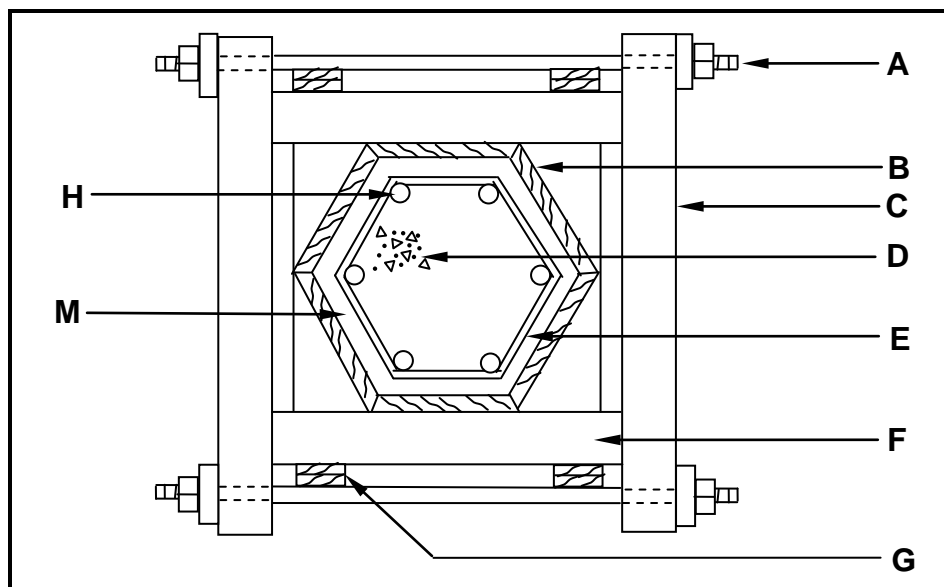

FIGURE 2.1
- 2.1 FIGURE 2.1 below shows hexagonal formwork for a concrete column with concrete and reinforcement in place. Analyse the illustration and answer the questions that follow.